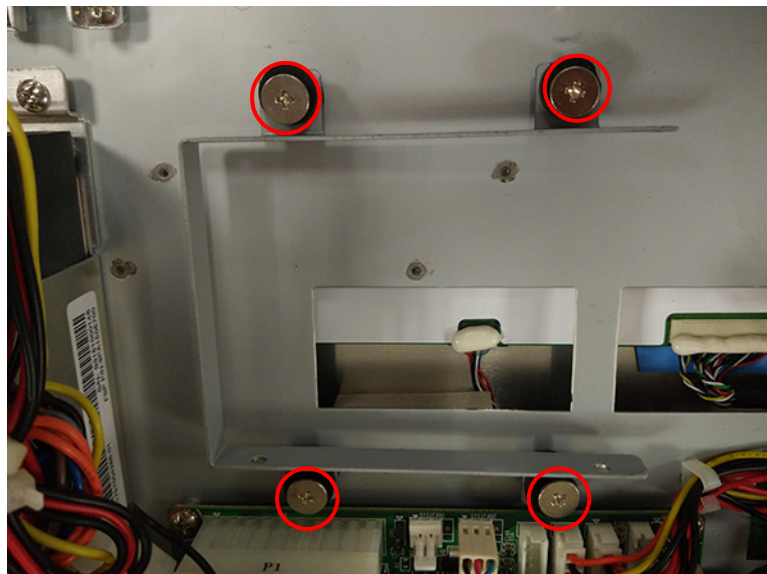

Figure 2.17
2. Remove the four screws as indicated below, and then take down the U-type HDD bracket. (See Fig 2.17)